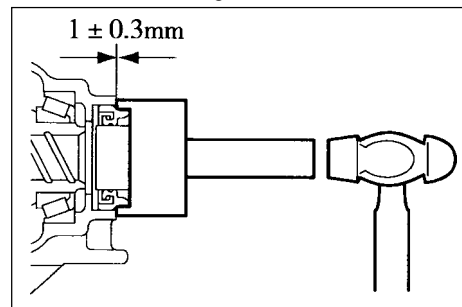

Figure 6-7
2. Mount the oil seal of the transmission housing (see Figure 6-7).